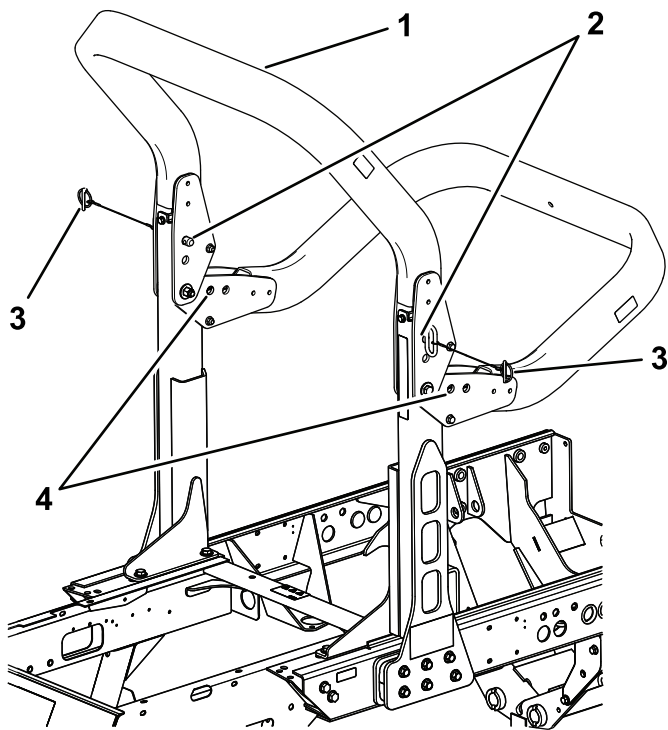

Figure 60
2. Support the weight of the upper frame of the roll bar while removing the snap pins and clevis pins from the pivot brackets (Figure 60).